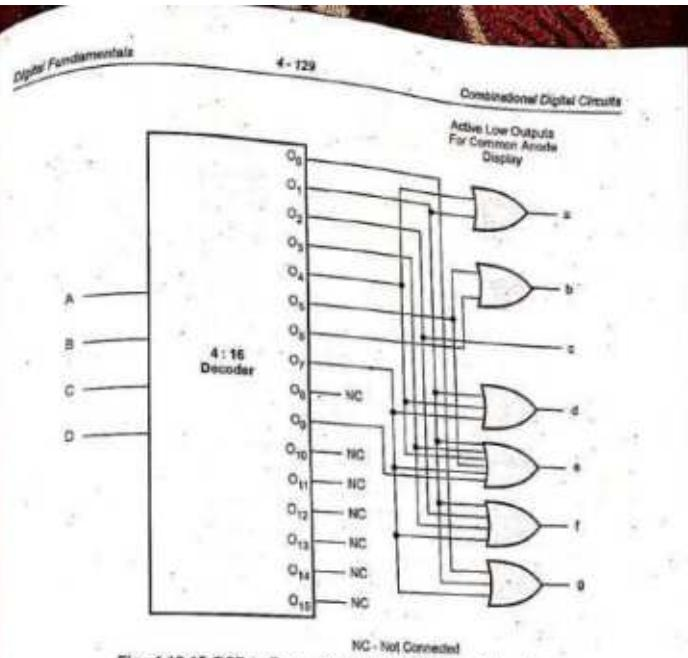

Fig. 4.12.15 BCD-to-7 segment decoder using 4 : 16 decoder
**Solution :** Referring the truth table from Table 4.12.9 we can implement BCD-to-7 segment decoder for common anode as shown in the Fig. 4.12.15.